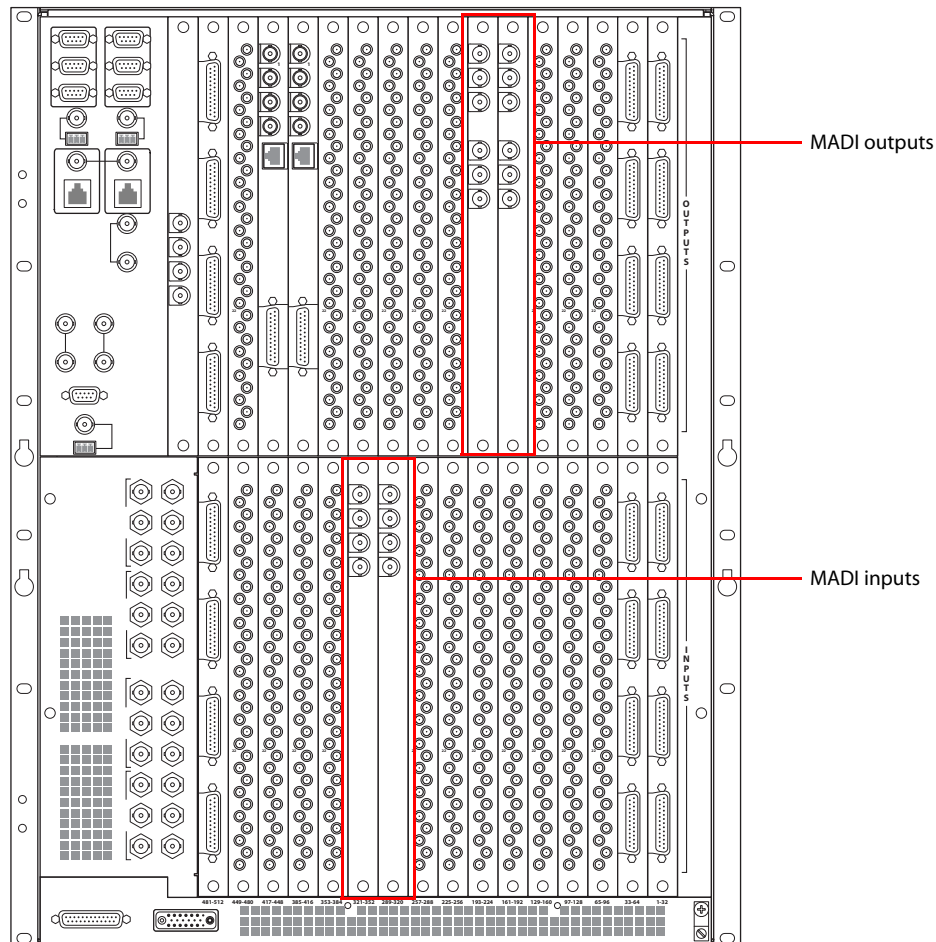

Figure 2-29. MADI Reference Connection (Rear View)
- 1 Locate the MADI reference connections on the *MADI inputs* backplane on the rear of the router, as shown in Figure 2-29). Reference connections are located on backplane housing the MADI signal connections. Inputs are located in the lower half of the router frame. The exact location of the backplane may differ depending on your configuration.
- 2 Locate the MADI reference connections on the *MADI outputs* backplane on the rear of the router, as shown in Figure 2-29 on page 69), labeled 'REF 1 OUT' and 'REF 2 OUT'. Reference connections are located on backplane housing the MADI signal connections. Outputs are located in the lower half of the router frame.